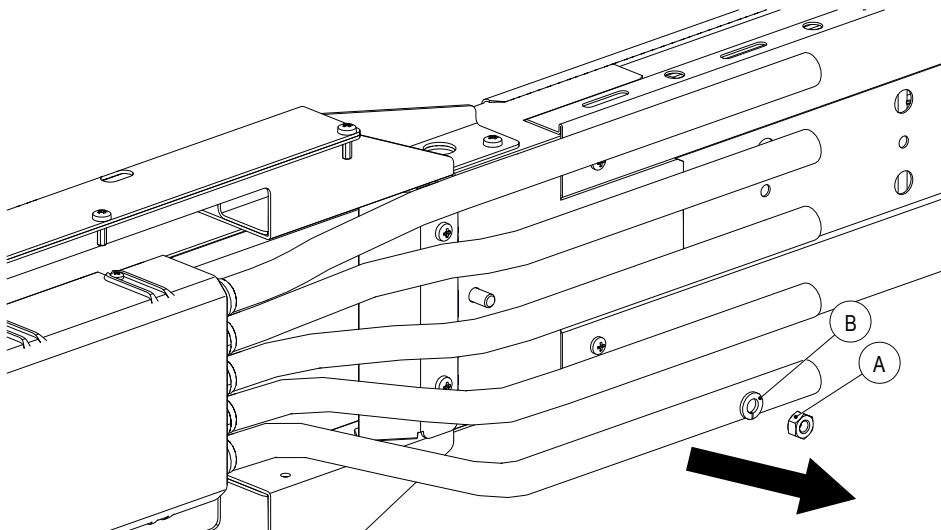

Fig. 76: Loosen rear hexagon nut M6 (A) of anchor point
2. Loosen the rear hexagon nut of the anchor point (A) with an open-end wrench SW 10. Remove the spring washer (B) and the hexagon nut (A) and sufficiently lift for the later installation of the strain relief plate (see Fig. 76).